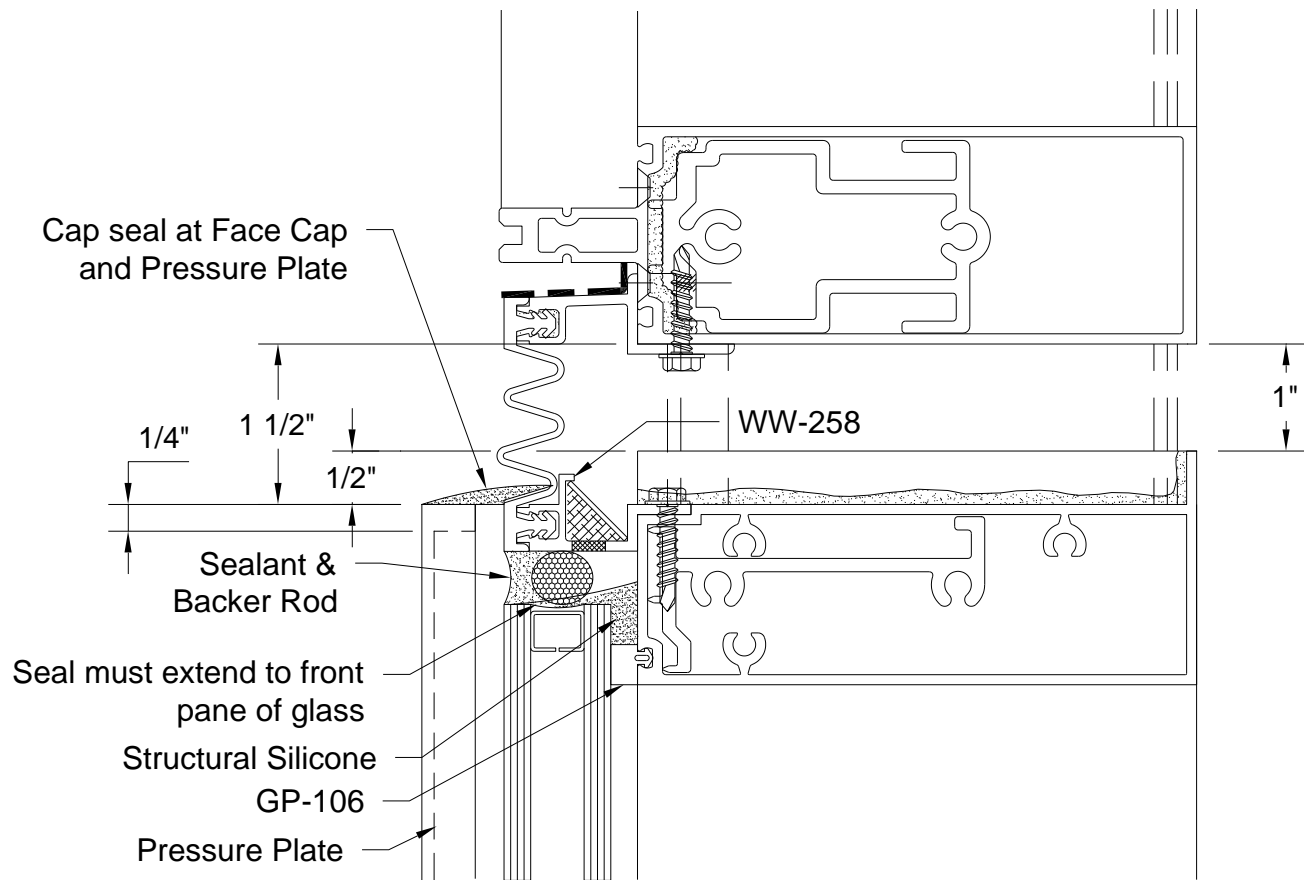

Figure 28: Structural Seal at Lower Units
- 12.14 Structural Silicone seal is required at top of glass of lower units. This seal must extend forward to cover top of glass. Insert backer rod and seal face of glass to lower side of WW-258 gasket retainer. See *Figure 28*. Do not obstruct weep hole in WW-258 gasket retainer.